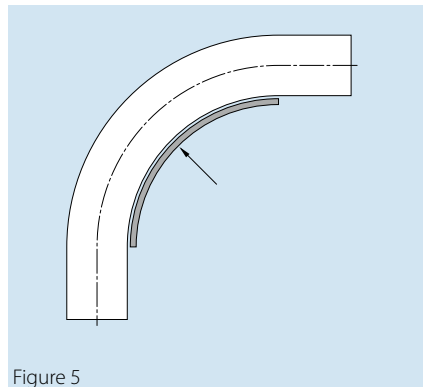

Figure 5
- Around the curves the belt is supported by plastic guides at the sides, for example PE 1000 or a plastic with lubricating properties, on the inner radius (see fig. 5).